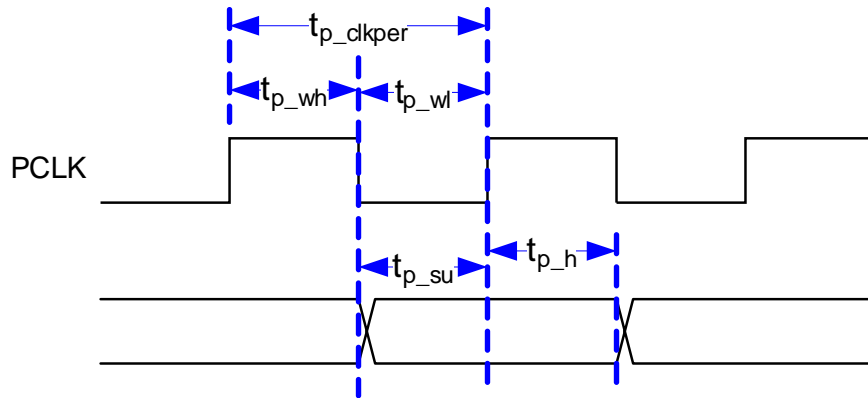

Figure 2. Parallel and BT.656 I/F General Timing
(1) The BT.656 I/F accepts 8-bit per color, 4:2:2 YCb/Cr data encoded per the industry standard though PDATA(7:0) on the active edge of PCLK (that is, programmable) as shown in Figure 2.
(2) Clock jitter should be calculated using this formula: $\text{Jitter} = (1 / f_{\text{clock}} - 28.35 \text{ ns})$. Setup and hold times must be met during clock jitter.